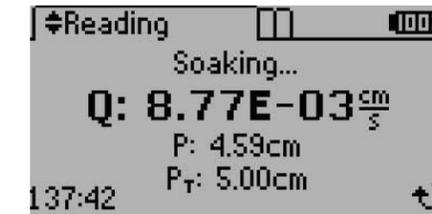

Figure 17 Status screen during test
- **Status Screen.** The Status screen shows the test status, such as *Soaking* (Figure 17). When the test is completed, it changes to the Results screen.